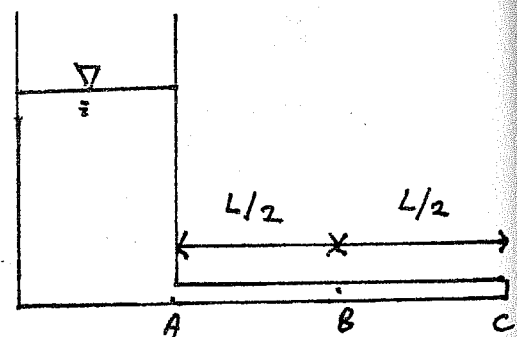

FIGURE 8
8) Water (of density ρ and dynamic viscosity μ) is discharged steadily from a large tank to the atmosphere through a long pipe, ABC, as shown in Figure 8. A valve is located at C, as shown. The average velocity of the flow is V . The pipe diameter is d and the length of the pipe is L . The pipe wall thickness is T while the Young's modulus of the pipe material is E . The bulk modulus of